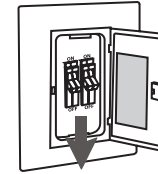

FIGURE 5
1. Disconnect power to the fan location. A licensed electrician must install the fan if required by your local electrical code (Fig. 5).